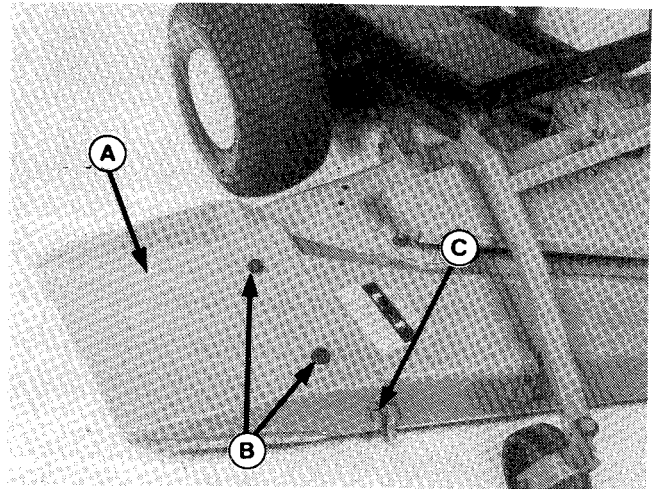

Figure 26.
To operate without the grass collection system, remove the blower by removing the front wing nut. Re-install the mower deflector (A, figure 26) by installing front nut (C) and inserting 3/8-16 x 3/4 carriage bolts in top holes (B). Install washers, lockwashers and nuts on carriage bolts.